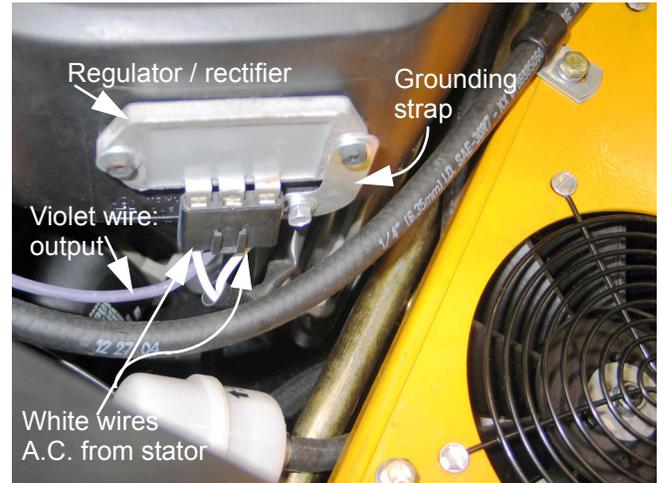

Figure 28.31
28.31. Engine harness - **regulator / rectifier**: The regulator / rectifier is mounted near the right front corner of the engine, extending into the blower shroud. See Figure 28.31.